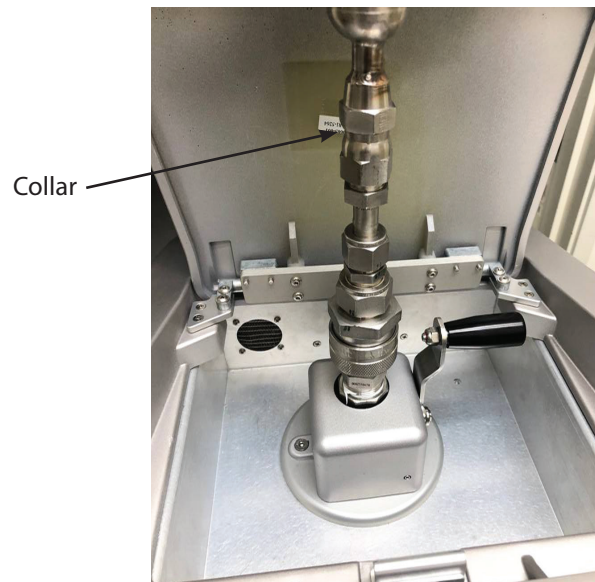

Figure 23 – Inserting The Fill Tube Into The Fill Port
9. Connect the Liquid N2 Hose from the tank by inserting the Fill Tube into the port (*Figure 23*).